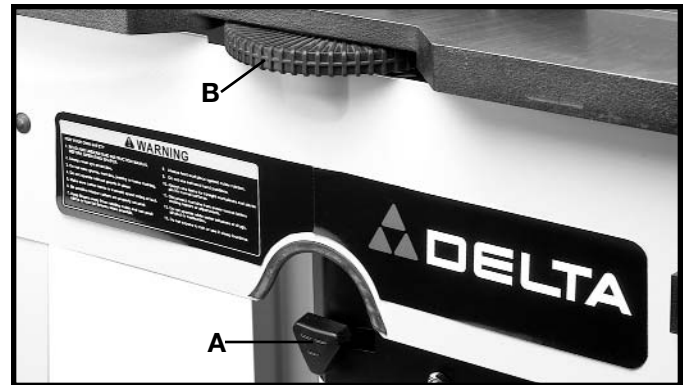

Fig. 18
The spindle can be raised or lowered by loosening lock knob (A) Fig. 18, and rotating handwheel (B). Rotating the handwheel clockwise will raise the spindle and rotating it counterclockwise will lower the spindle. **IMPORTANT:** Final height setting of the cutter should always be made by moving the spindle upward. Always tighten lock knob (A) after adjusting spindle height.